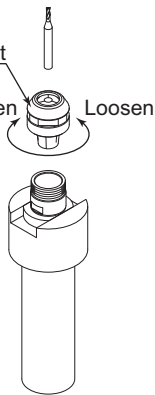

Fig 9
- ③ Attach the collet chuck and chuck nut to the collet holder, and lightly finger tighten. (Do not tighten until the end.) (Fig. 9)